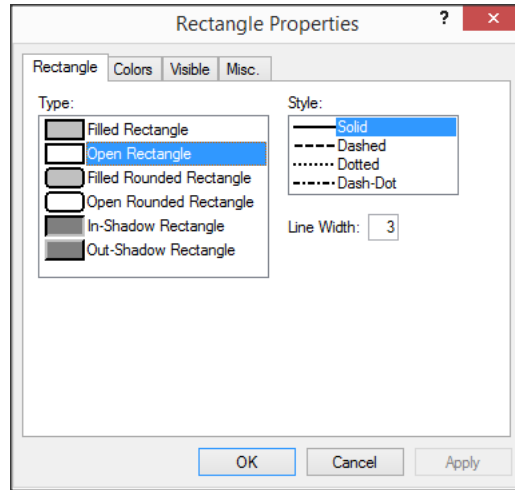

Figure 11.18: The **Rectangle** tab of the **Rectangle Properties** dialog box
- ▶ complete the **Rectangle** tab of the **Rectangle Properties** dialog box as shown in Figure 11.18, and